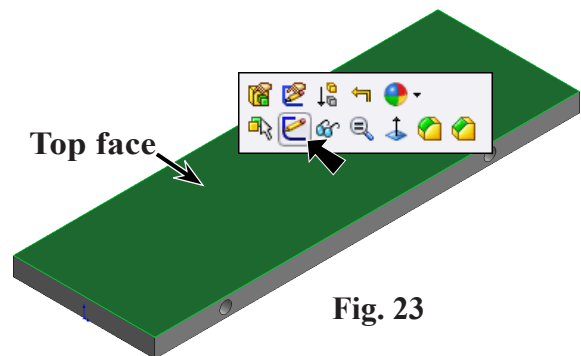

Fig. 23
Step 1. Click the **top face** of base and click **Sketch**  on the Content menu, **Fig. 23**.
Step 3. Click **Center Rectangle**  (S) in the **Rectangle flyout**  on the Sketch toolbar.